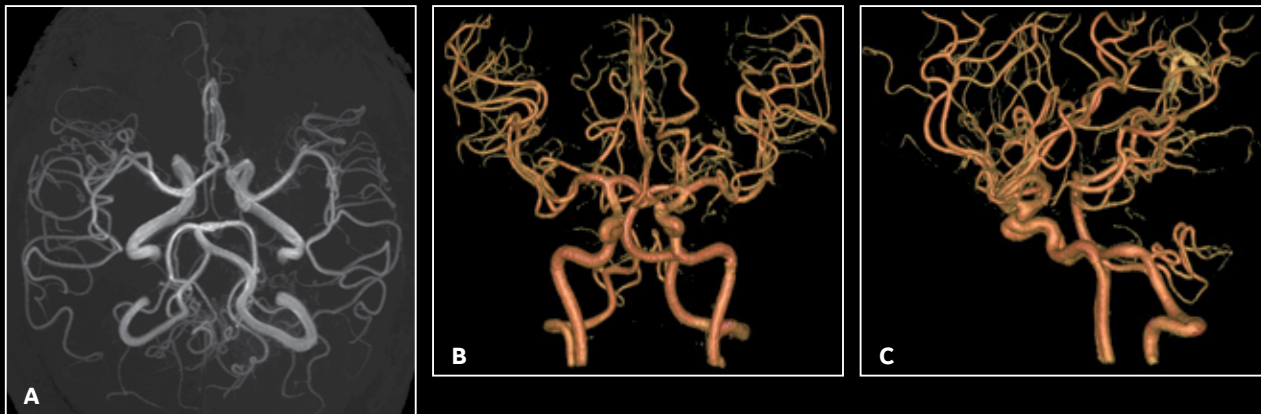

Figure 3. (A-C) TOF MRA with HyperSense factor of 2.5 and ARC factor of 2, 0.4 x 0.5 x 0.8 mm, 6:06 min.
Figure 3. Fetal imaging with AIR™ AA Coil improved comfort for the woman by imaging her in the decubitus position. (A-B) Axial T2 SSFSE; and (C-E) Oblique T2 SSFSE.
something that previously took approximately 20 minutes (Figure 3).
“Sometimes we needed different WW/WL adjustments so we could clearly see the anatomy between the center and the edge of the FOV to make a diagnosis. Now, we no longer need to make this change in most patients,” he says (Figure 3).
Figure 3. Patient with an adrenal mass. (A) Axial T2w SSFSE, 1.1 x 1.8 x 5 mm, 18 sec.; (B) Axial DW-EPI, 2.8 x 2.8 x 5 mm, 3:49 min. (RTr); (C-E) Coronal LAVA Flex, 1.4 x 1.6 x 3 mm, 16 sec.; (C) water, (D) in-phase and (E) out-of-phase.